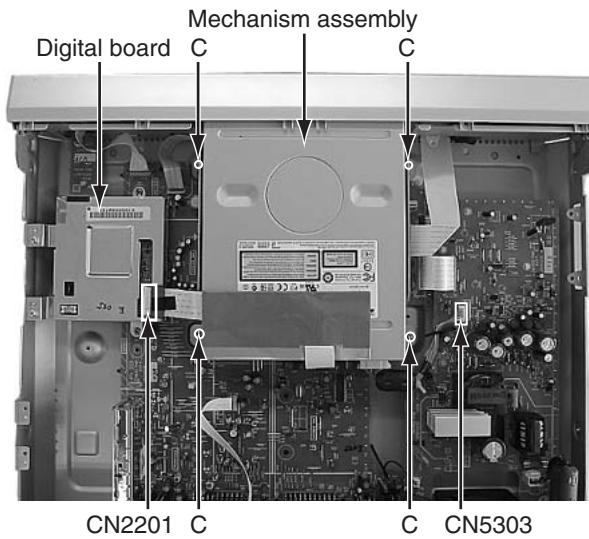

Fig.5
3.1.3 Remove the mechanism assembly (See figure 5)